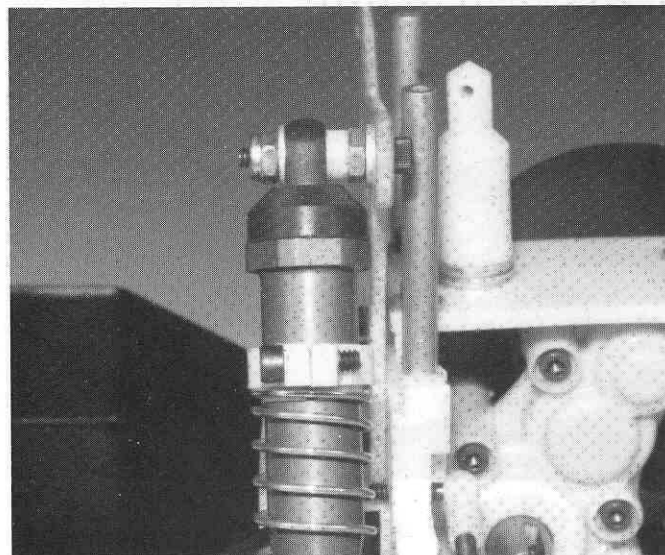

Fig. 114
□ **Fig. 114** Install a #6936 #4 washer and a #6295 4/40 nylock locking nut next. Do not overtighten the nut, it is only necessary for the nut to take up the end play. Now do the other shock.